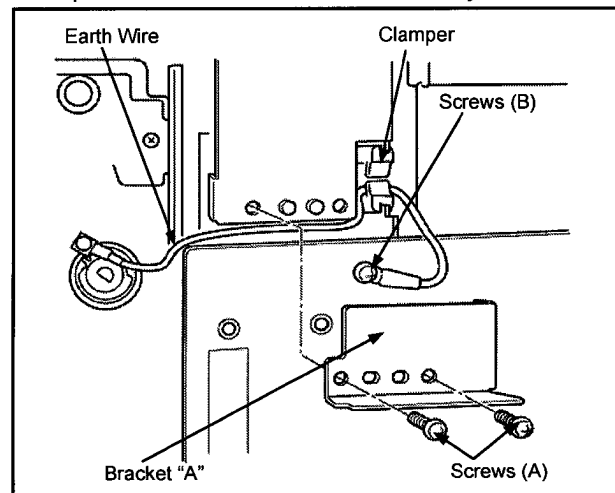

Fig. 4-1-2
3. Unscrew the 2 screws "A" and then Bracket (A) as shown in Figure 4-1-2. Remove the screw (B) and then remove the cylinder earth wire from the clamber.